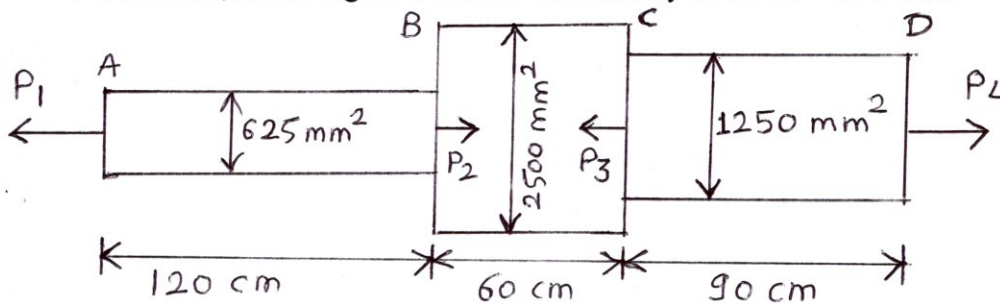

Fig 1.a
- Q.1 a) A member is ABCD is subjected to point load P_1 , P_2 , P_3 and P_4 as shown in fig 1.a Calculate the force P_2 necessary for equilibrium, if $P_1=45$ kN, $P_3=450$ kN and $P_4=130$ kN. Identify the total elongation of the member, assuming the modulus of elasticity to be 2.1×10^5 N/mm²